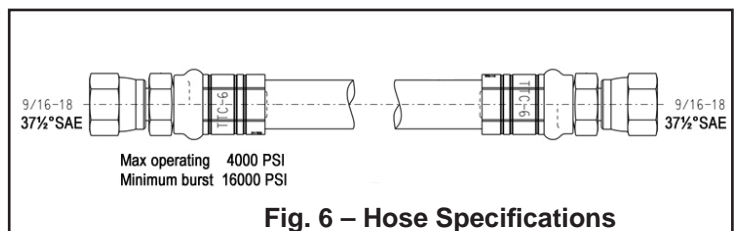

Fig. 6 – Hose Specifications
As the dock lift moves up and down, “pinch points” are created at the places shown in Figure 6. If you are standing too close to the lift when it is moving, your arm or leg may be caught in the moving parts, and you may be hurt. Stay away from the pinch points when the lift is moving.
As the dock lift moves up and down, “pinch points” are created as shown in Figure 6. Stay away from these pinch points! Part of your body or clothing may become caught, and you may be hurt.
- As the lift moves up and down, "pinch points" are formed as shown in Figure 6. Keep hands, feet, and loose clothing away from these pinch points. If your hand or arm or a part of your clothing is caught, you may be hurt.